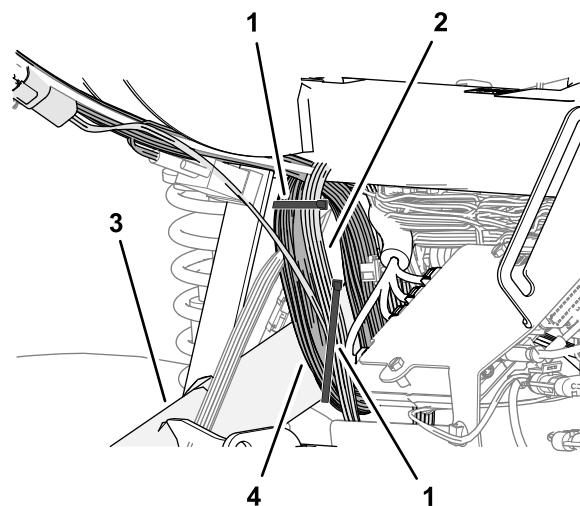

Figure 204
1. Bundle the ISO-CAN bus harness and secure it to the navigation-data and electrical harness with a cable tie (Figure 204).
2. Secure the ISO-CAN bus harness and navigation-data and electrical harness to the right frame tube with a cable tie as shown in Figure 204.